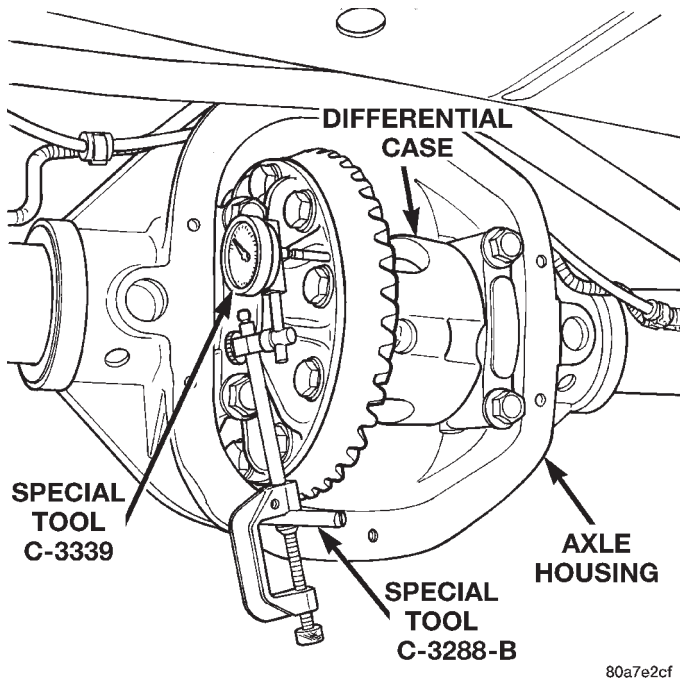

Fig. 64 Differential Side play Measurement
- (8) Thread guide stud C-3288-B into rear cover bolt hole below ring gear (Fig. 64).
(9) Attach a dial indicator C-3339 to guide stud. Position the dial indicator plunger on a flat surface between the ring gear bolt heads (Fig. 64).
(20) Position the dial indicator plunger on a flat surface between the ring gear bolt heads. (Fig. 64).